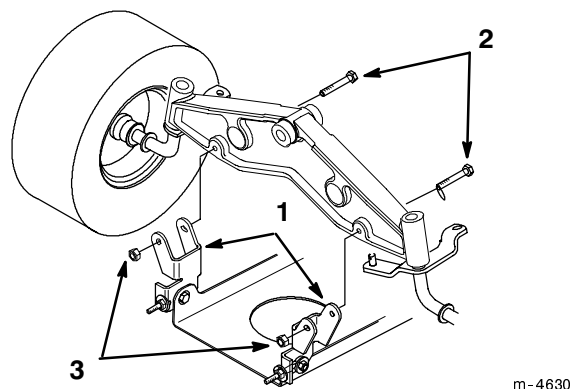

Figure 45
5. Install the mower pivot mount brackets onto the front axle with bolts and lock nuts (Fig. 45). Tighten fasteners.